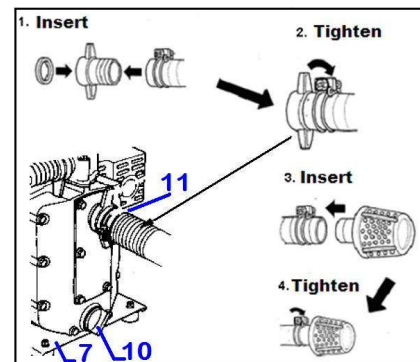

Fig.6
The strainer is provided with the pump and should be attached to the end of the suction hose with a clamp as shown (fig.6)
b) Assembly (Fig.6)